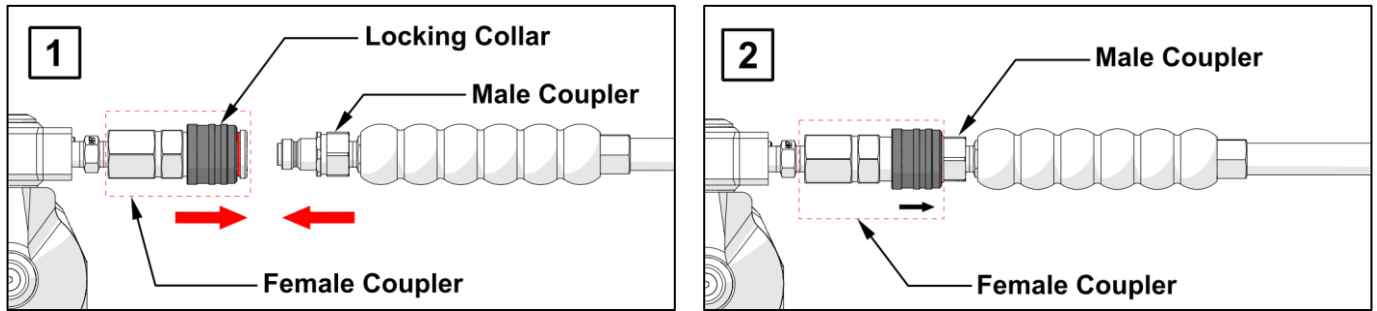

Figure 5.1: Hydraulic Connections
**WARNING!** If you are **NOT** using a Hi-Force Torque Wrench pump, or if the pump or hoses have been modified, make sure that the wrench is connected correctly so that the female high-pressure advance coupler (2) is connected to the advance port on the pump. Failure to do so may result in leakage, tool damage or personal injury.
5.2.1 Connections (See figure 5.1)